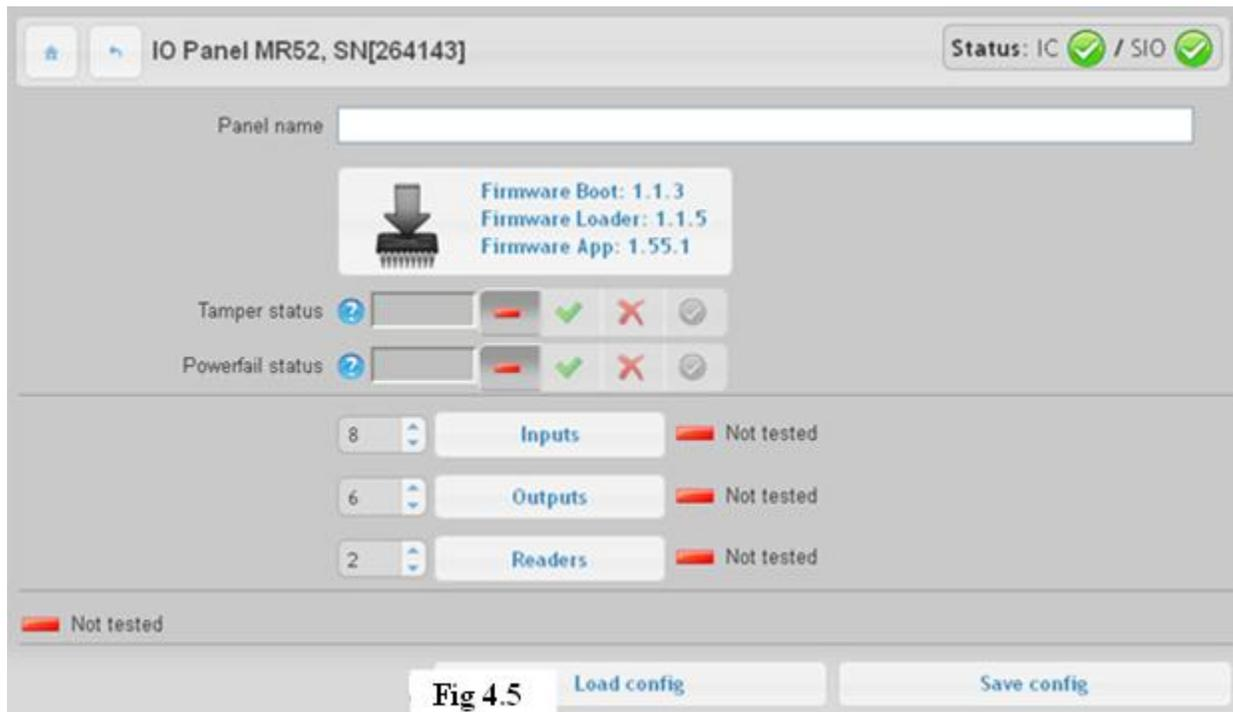

Fig 4.5
Connect to any IO by selecting it from the IO device list. Once chosen, the IO Panel screen will launch (Fig 4.5 below). This page lists the IO’s type and serial number (SN) on the title bar. Additionally, the connection status of both the IC and the SIO can be seen as either online or offline by looking at that status icon at the top right hand corner of the title bar.